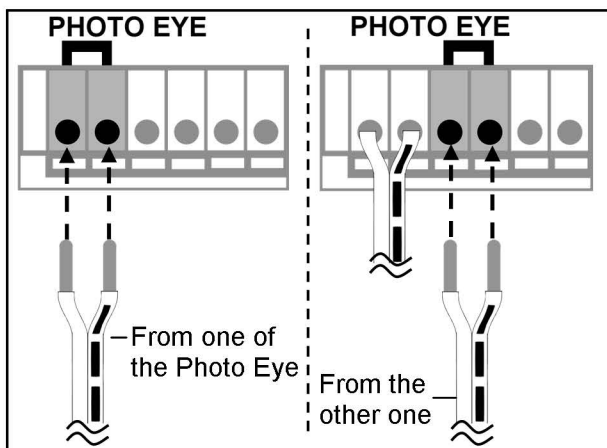

Fig. 3
4. Wires **MUST NOT** be frayed and connected properly as shown in Fig.3. Each accessory requires a pair of terminals, Each pair of terminals **MUST** be connected with one white wire and one striped wire (non-polarized) from the **SAME** accessory.
1. Connect a pair of wires from either one of the Photo Eyes to a pair of "PHOTO EYE" terminals on the rear of the Opener as shown in Fig. 3. Refer to **Wiring Instructions** on page 12 for proper connections.